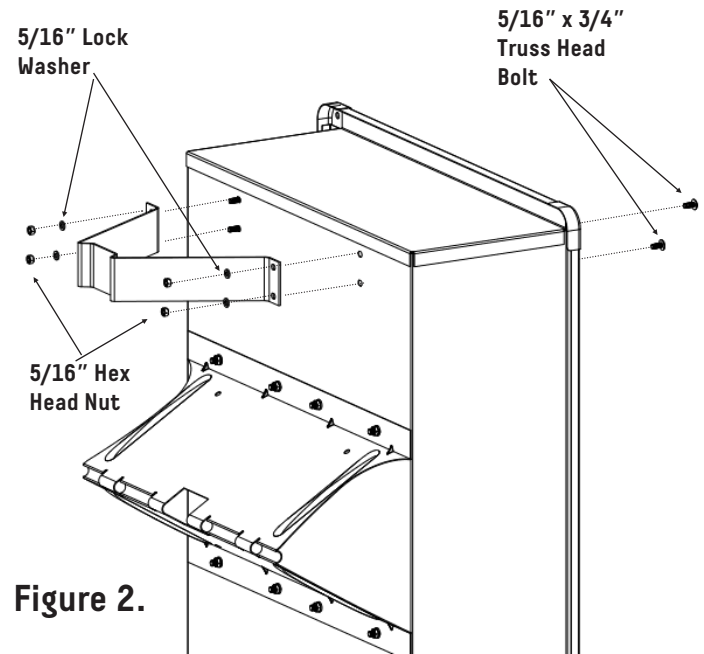

Figure 2.
2. Attach Pedestal to bottom front of Body. Use 5/16 x 3/4" Truss Head Bolts from inside. On the bottom side, use 5/16" Lock Washers and secure with 5/16" Hex Head Nuts. See Figure 2.